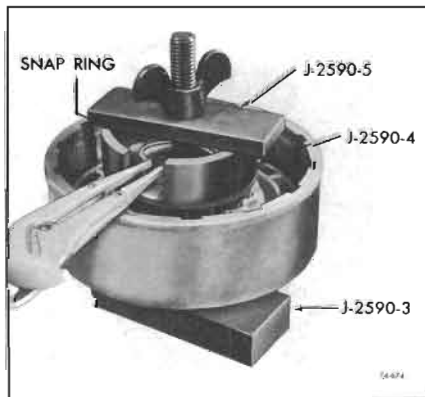

Figure 74-687
7. Using Tool J-2590, install snap ring. See Figure 74-687.
8. Install five (5) composition and five (5) steel clutch plates, starting with steel and alternating